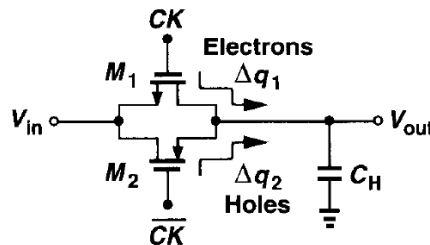

Figure 12.26 Use of complementary switches to reduce charge injection.
- Fig. 12.26: Attempts to match dimensions leads to cancellation for only one input level.